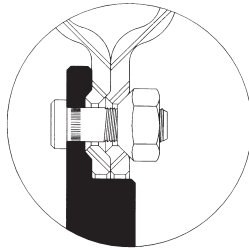

Figure 23
- ➔ With 90° cone nuts  $\frac{9}{16}$ "-18, (X-1146,7) or  $\frac{5}{8}$ "-18, (X-1148,9), use the tightening sequence shown with Figure 23. The nuts should be tightened to 175-200 ft.-lbs. torque (dry).